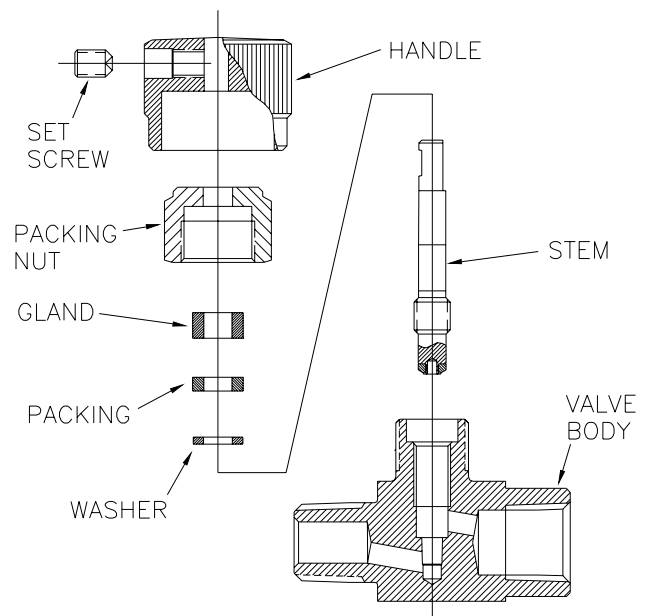

Figure 4: Bar Stock Needle Valve
- C) Grafoil® Stem Packing (optional): Refer to Figure 4. Stack the three packing components on the Lower Stem (either "K" or "R") in the following order, with the first item being placed above the Stem threads. Then proceed to Step 8.